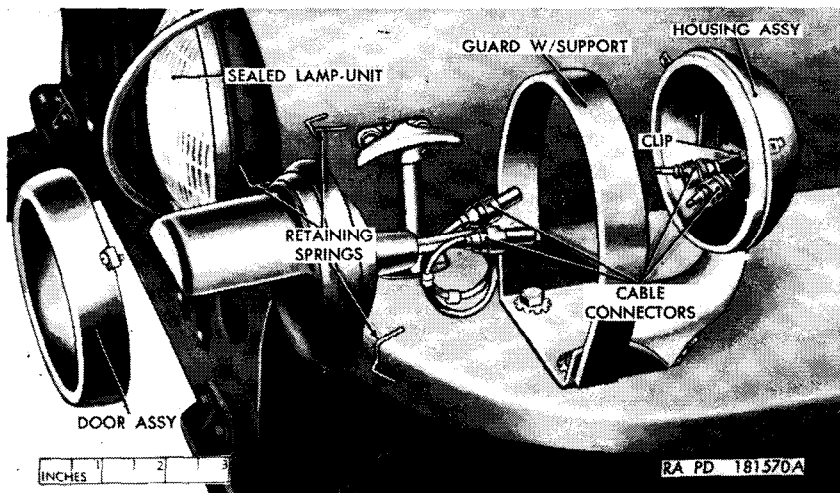

Figure 74. Blackout headlight assembly—partially exploded view.
a. Blackout Headlight Sealed Lamp-Unit (fig. 74).
- (1) *Removal.* Unscrew three screws securing the door assembly to the housing assembly, and pull the door and sealed lamp-unit from the housing assembly. Pull the cable connectors from the clips in the housing assembly and disconnect both cables. Remove three retaining springs securing the sealed lamp-unit in the door assembly and remove the unit.